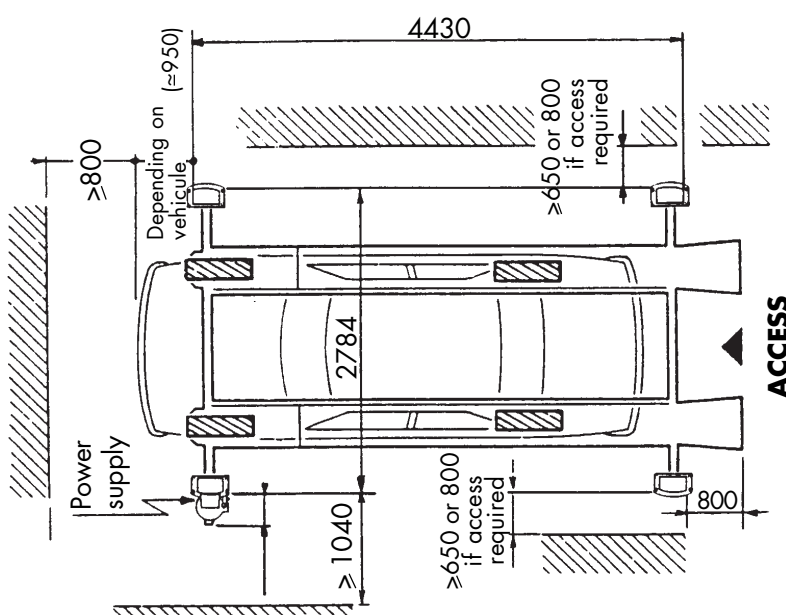

Fig. 1
- The front or rear of the vehicle must not come into contact with walls, doors or any other obstructions, and all minimum safety clearances must be observed (Fig. 1).